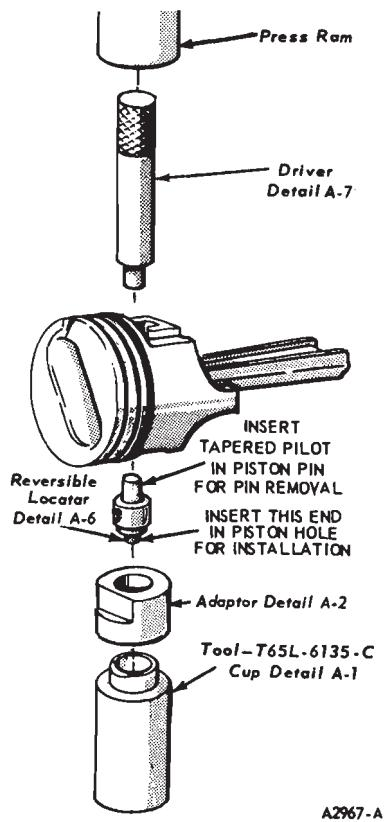

FIG. 35—Removing or Installing Piston Pin
3. Using an Arbor Press and tool shown in Fig. 35, press the piston pin from the piston and connecting rod. Remove the piston rings.